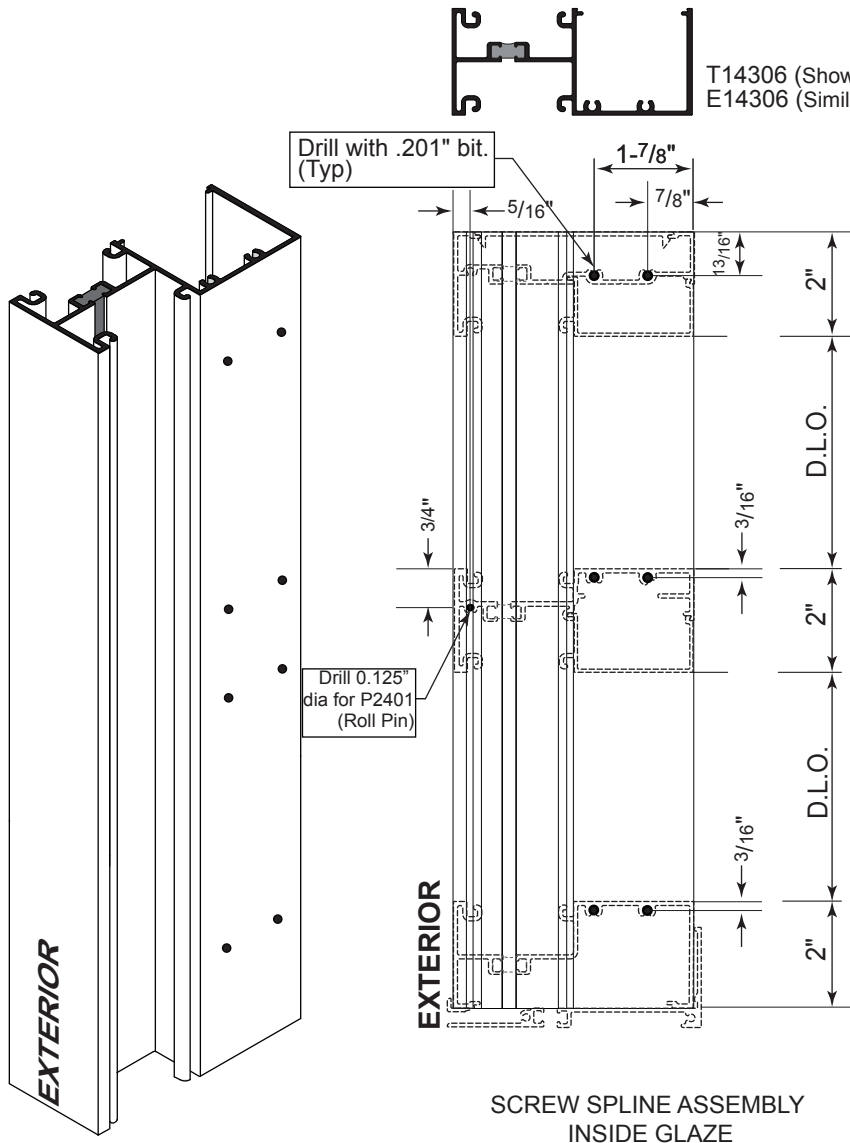

Fig. 28.1
- A. Drill frame assembly holes in verticals, jambs & closure pockets with drill fixture. See **Fig. 28.1** & **Fig. 28.2**
- B. Per approved shop drawings, drill hole to accommodate for P2401 Roll Pin. See **Fig. 28.1** & **Fig. 28.2**